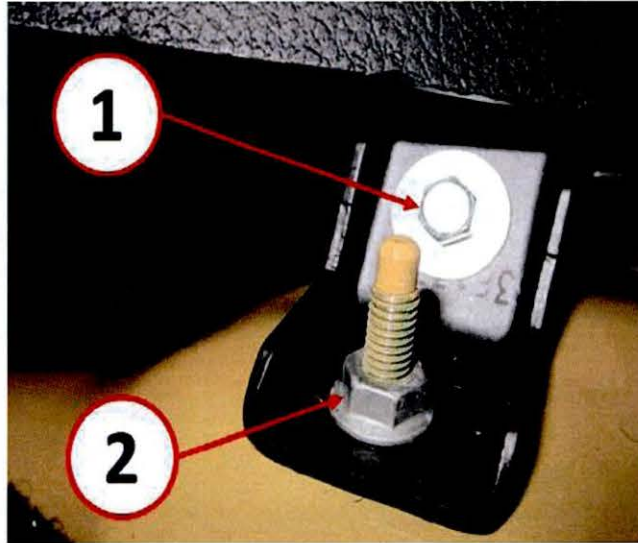

Fig. 5 Tighten Fasteners
3. Tighten bolt (1) to magnesium bracket to 14 +/- 2 N-m and tighten nut (2) to floor pan to 8 +/- 2N-m (Fig. 5).